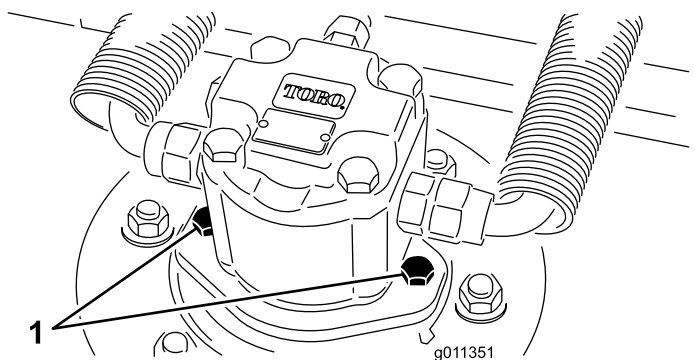

Figure 71
2. Disconnect and remove the hydraulic motor from the deck (Figure 71). Cover the top of the spindle to prevent contamination.
3. Install the hydraulic motor to the deck (Figure 71). Make sure that the O-ring is in position and not damaged.